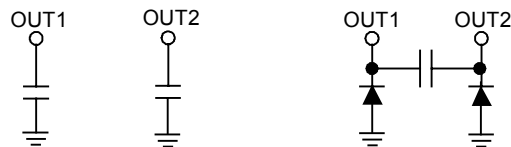

Fig. 2
- (13) The input pins have temperature-dependent characteristics. Take the temperature effect into consideration when using the IC.
- (14) To eliminate motor noise, connect a capacitor between OUT1 and GND and between OUT2 and GND. Alternatively, connect a capacitor between OUT1 and OUT2, and also a diode between OUT1 and GND and between OUT2 and GND (see Fig. 2).